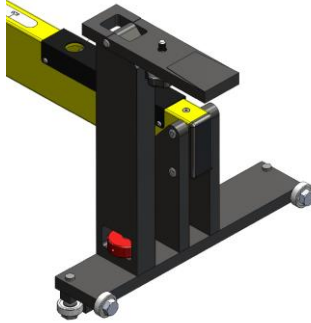

Figure 3
3. Screw the REFOS bracket to the rail foot of the gauge. The REFOS bracket may be fitted to either side of the gauge as required (see Figure 3).
1. Secure laser unit to REFOS bracket (see Figure 3).